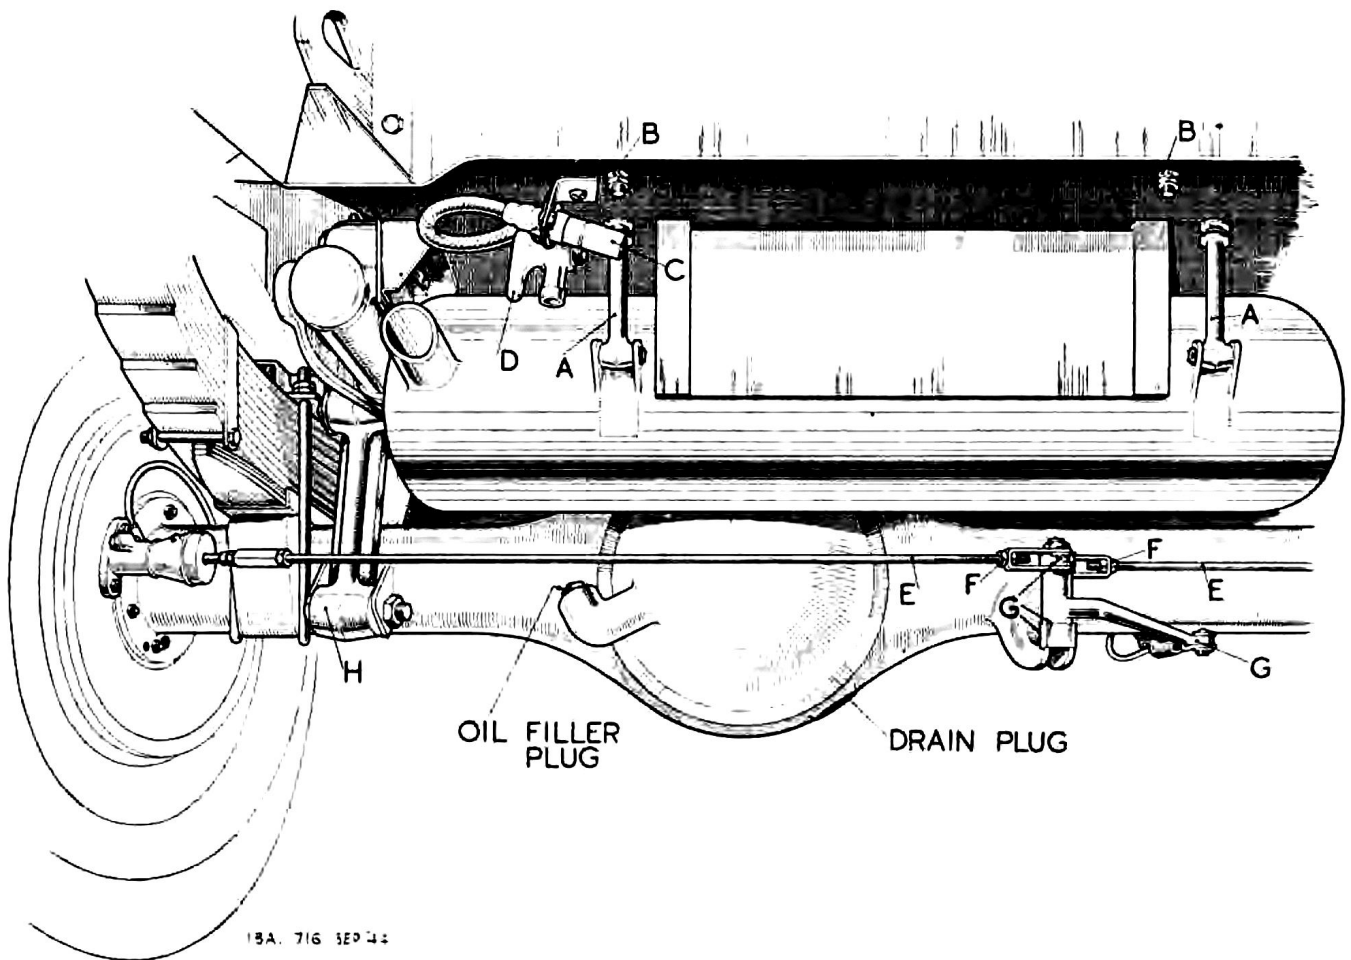

Fig. 24.—REAR BRAKE TRANSVERSE RODS
The vehicle is fitted with four shock absorbers. One is connected to each bottom link of the front suspension, while at the rear, one is connected to each end of the axle case. (H Fig. 24.)
5. Brake rod clevis pins and bearings (five points) on the rear axle case, use force feed oil can. (G. Fig. 24.)